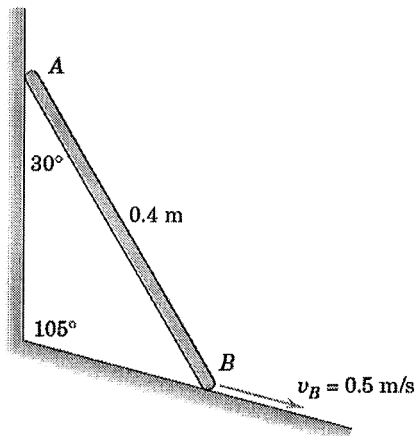

Fig. 4a
4. (a) Explain the significance of instantaneous center. (4)
(b) The ends of the 0.4-m slender bar (Fig. 4a) remain in contact with their respective support surfaces. If end B has a velocity $v_B = 0.5 \text{ m/s}$ in the direction shown, determine the angular velocity of the bar and the velocity of end A using instantaneous center approach. (6)